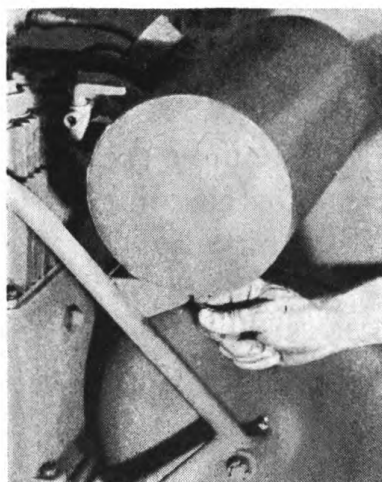

FIGURE 12
2. Drain moisture from air receiver tank by opening air receiver drain 2713. (See Figure 12.)